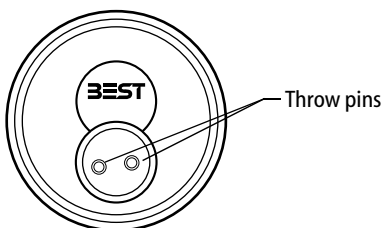

Figure 2 Aligning the throw pins to prepare for the installation of the plastic turn knob
- 1 Align the throw pins with the turn knob or with an installation tool (ED-211) to make sure that the cam or the throw member is in its proper position for installation (see the specific product installation instructions). See Figure 2.